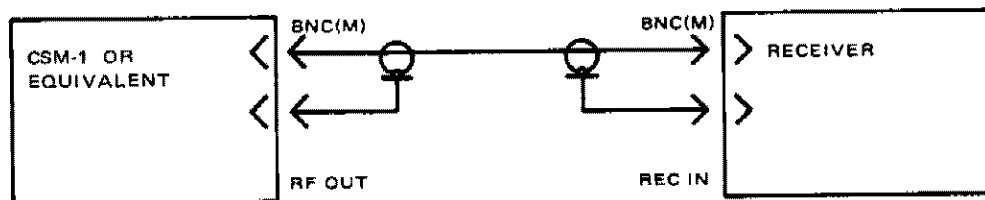

Figure 6-1. Test Setup for Front Panel Test Point Indications
**6.3 FRONT PANEL TEST POINT INDICATIONS.**- The purpose of this procedure is to determine if key operating test point indications are within tolerance. Figure 6-1 shows the test setup.